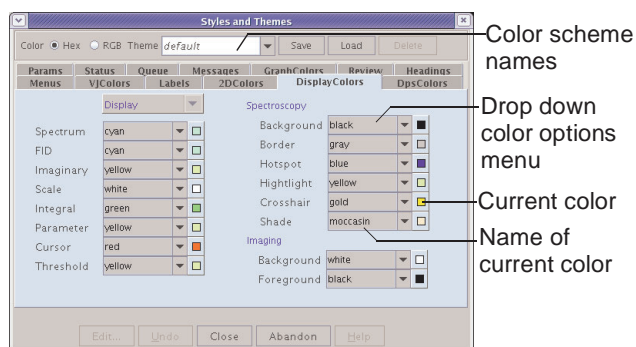

Figure 75. Setting Display Colors
3. Click on the **Display Colors** tab to show the current color scheme, see Figure 75